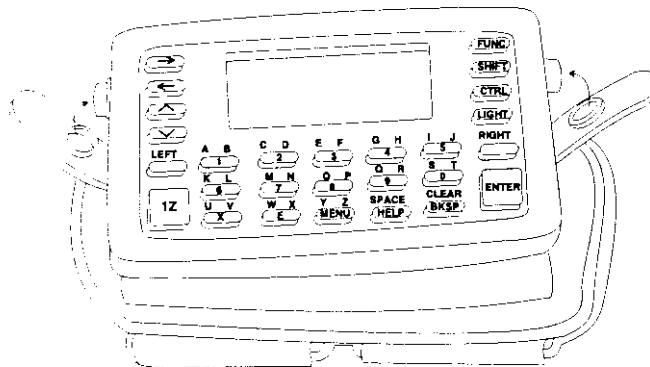

Figure 5-5. Snapping Mount Straps on the WWC 1000
5. Snap the mount straps onto the WWC 1000 to secure (Figure 5-5).